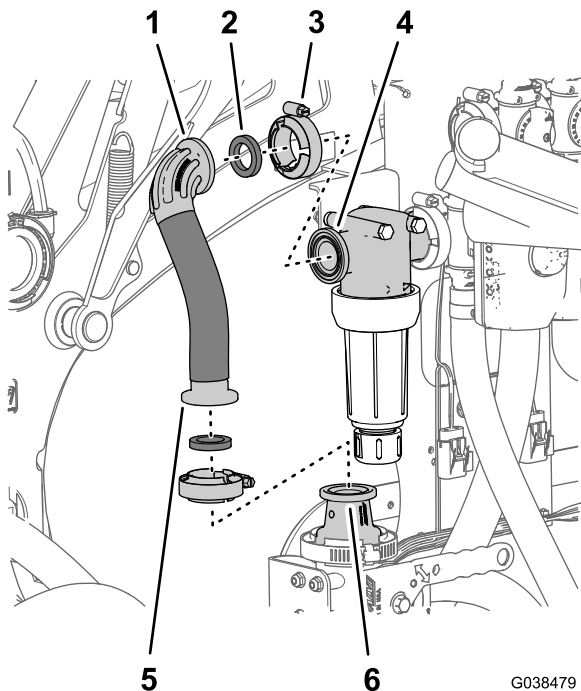

Figure 76
- 1. Align the straight barbed fitting of the upper supply hose 25 x 22 cm (1 x 8-5/8 inches) and a gasket—25 x 35 mm (1 x 1-3/8 inches) with the flange of the adapter on the eductor-shutoff valve (Figure 76).
- 2. Loosely assemble the hose to the adapter (Figure 76) with a flange clamp—40 to 64 mm (1-9/16 to 2-1/2 inches).
- 3. Align the 90° flanged elbow of the upper supply hose and the gasket to the flange of the filter head (Figure 76).
- 4. Secure the 90° flanged elbow to the filter head (Figure 76) with a flange clamp—40 to 64 mm (1-9/16 to 2-1/2 inches).
- 5. Tighten the flange clamp that secures straight barbed fitting of the upper supply hose to the adapter of the eductor-shutoff valve (Figure 76).